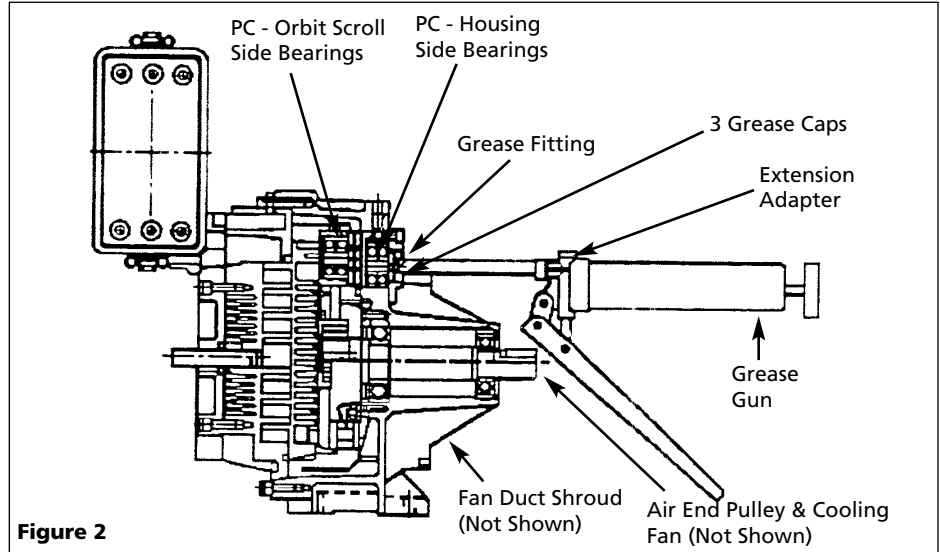

Figure 2
5. Remove the three grease caps (Fig. 2). Do not attempt to loosen or tighten the bolt.